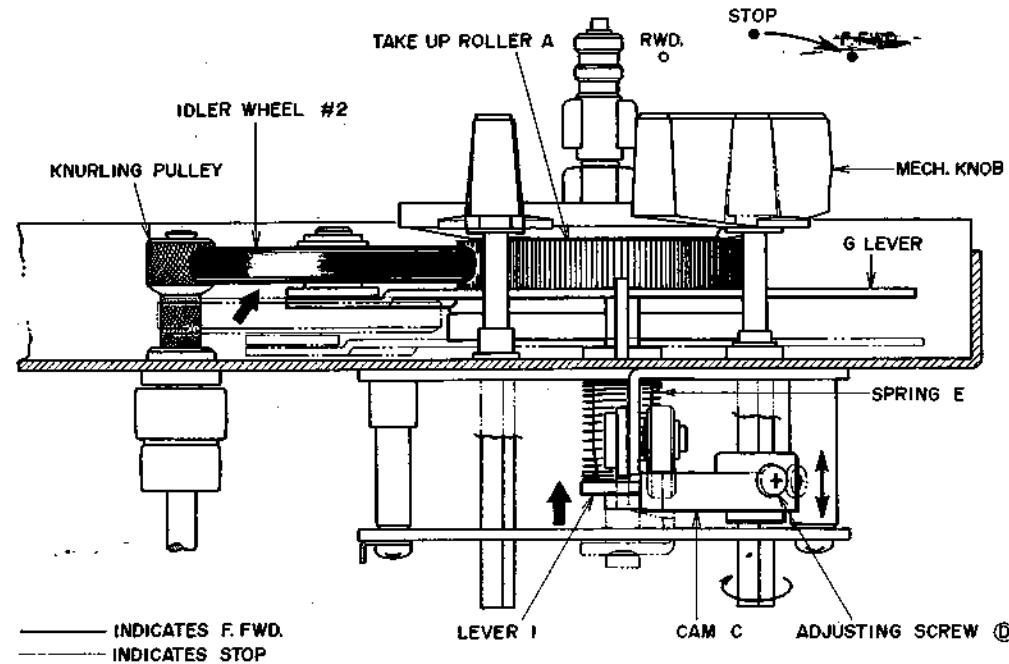

Fig. 15
Move Cam ⑨ shown in Fig. 15 up and down as indicated by the arrow mark (↔) in the figure and adjust Lever ⑩ height so that Idler #2 contact between Take Up Roller A and the knurling Pulley is uniform when the F.FWD/RWD Lever is set to F.FWD position. Fix at adjusted position with Adjustment Screw ⑩.